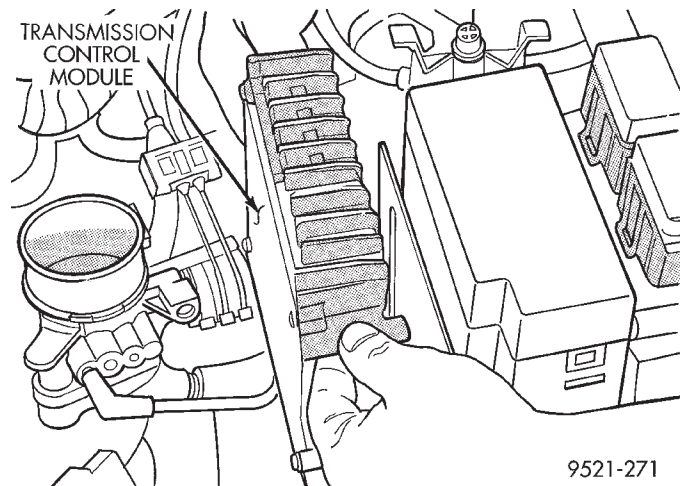

Fig. 42 Transmission Control Module
- (2) Remove air cleaner duct.
- (3) Remove transmission control module (TCM) and wiring (Fig. 42).